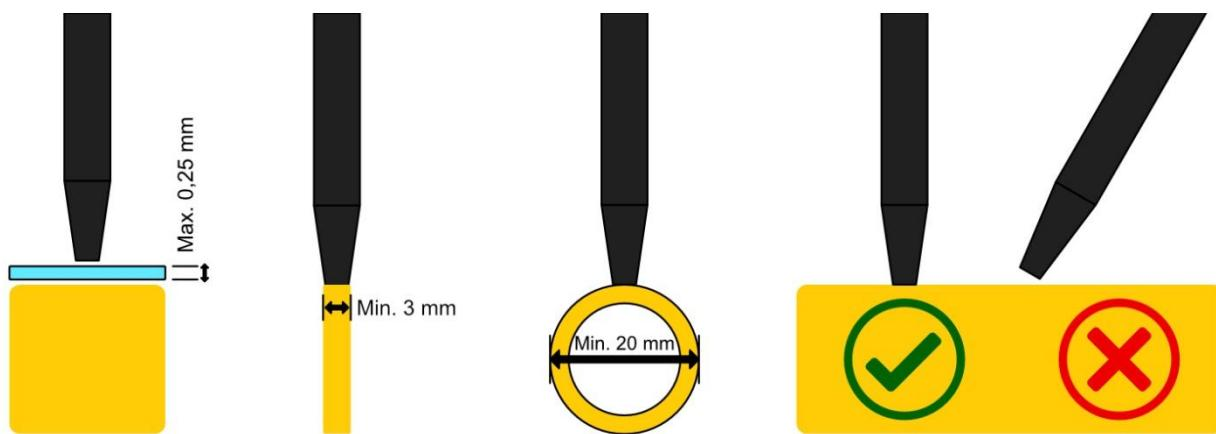

Figure 2 – Advice on the positioning of the probe tip.
To determine the conductivity of your test object, hold the tip of the pen perpendicular to the surface of the test object (see Figure 2). **Please do not place the sensor tip too forcefully on the surface or on sharp-edged mintages, as this may damage or destroy the sensitive coil in the tip. A gentle pressure, like when writing with a pen, is totally sufficient.** The device performs two measurements per second. Thus, the resulting conductivity value is continuously output on the display with an accuracy of one decimal place ③. Due to the measuring intervals and the user-related change in the position of the probe tip during the measurement, it is possible that the output conductivity value does not remain constant.